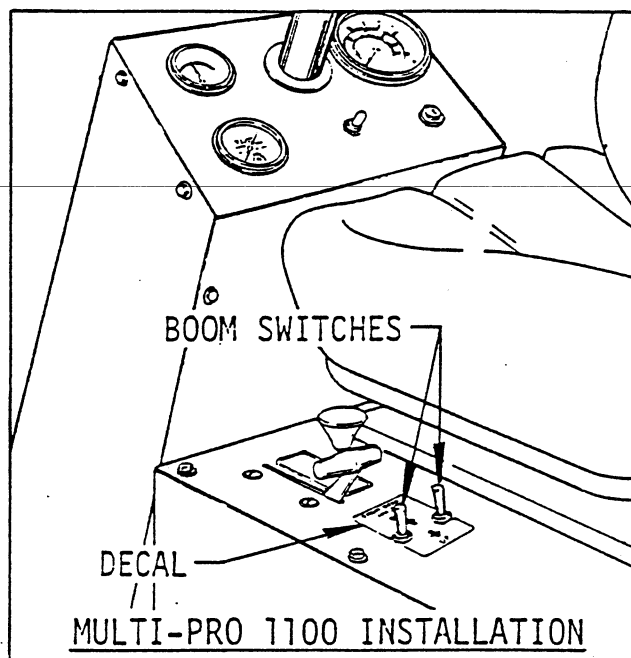

FIG. 2
2. Connect the harness connectors to the Switches as shown in the diagram on page 2. Install the Switches in the holes in the Seat Support, using the nuts included with the Switches. Install the protective rubber Boots. Apply the "UP/DOWN" Decal between the Switches as shown in FIG. 2 or FIG. 3.